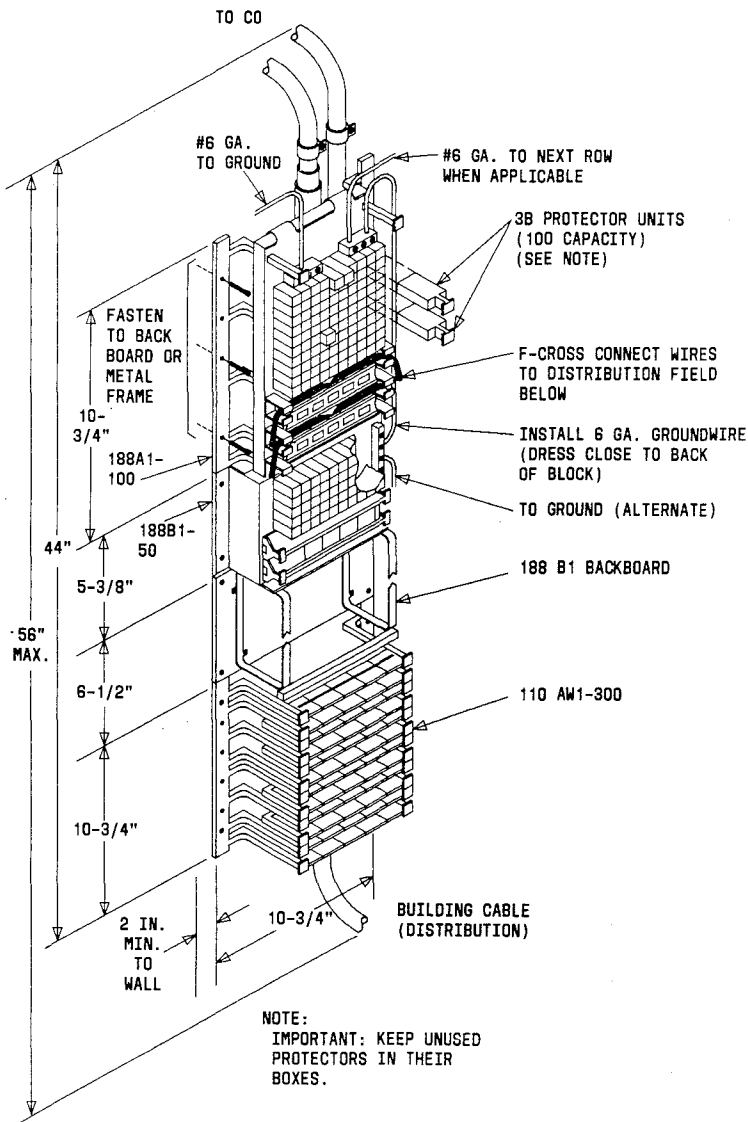

Fig. 12—150-Pair Entrance Cable—300-Pair Building Cable—Mechanical Protection Not Required
3.16 Starting at the left-hand side of the selected area, mount the 188-type protector(s) to this surface (Fig. 12 through 15).
3.17 Mount the 188B1 backboard(s) and the #110-type wiring blocks as shown in Fig. 12 through 15.